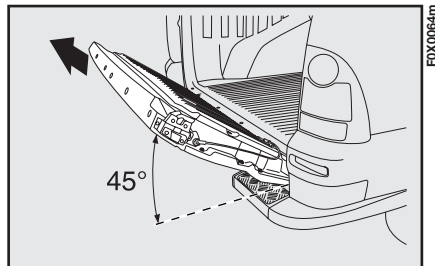

fig. 83
- remove the flap, pulling in the direction of the arrow fig. 83.